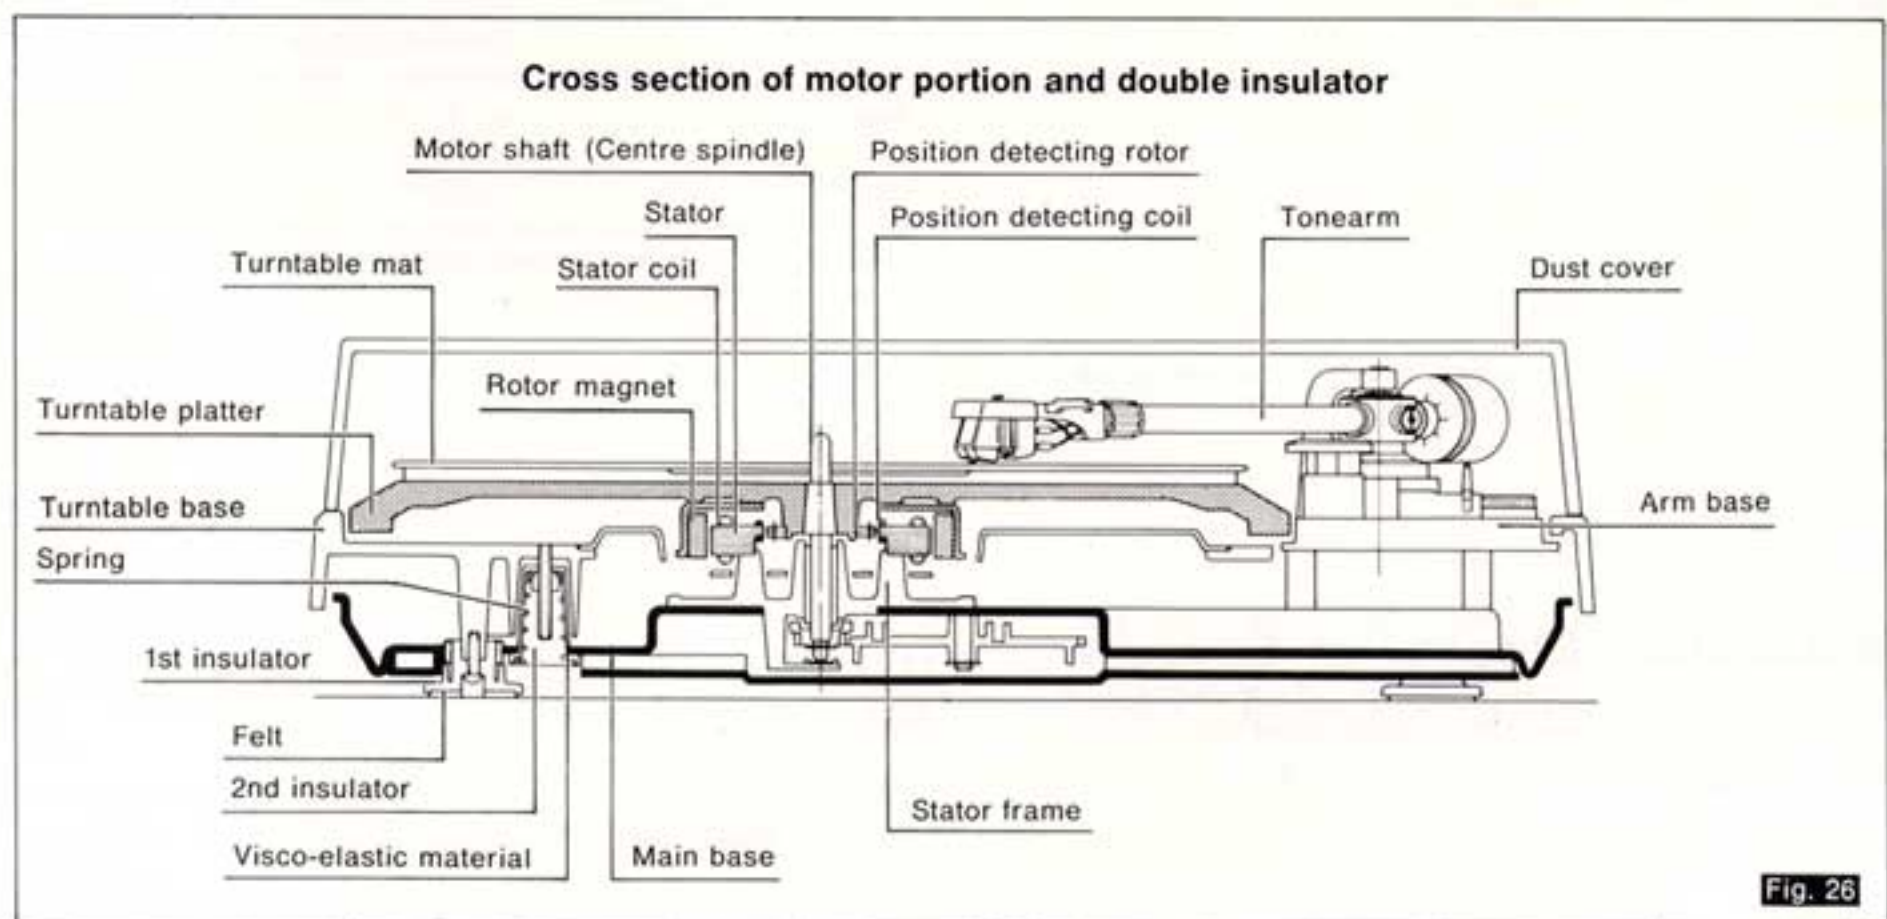

Fig. 26
- **The newly developed double-insulate vibration-damping unit, unique in Technics, was developed through high mass design placing particular emphasis on acoustic quality (See Fig. 26).**
- **Motor construction peculiar to Technics in which the rotor of the motor is integrally connected to the turntable platter. (See Fig. 26)**